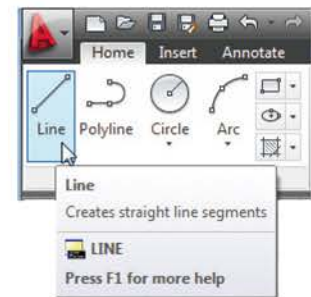
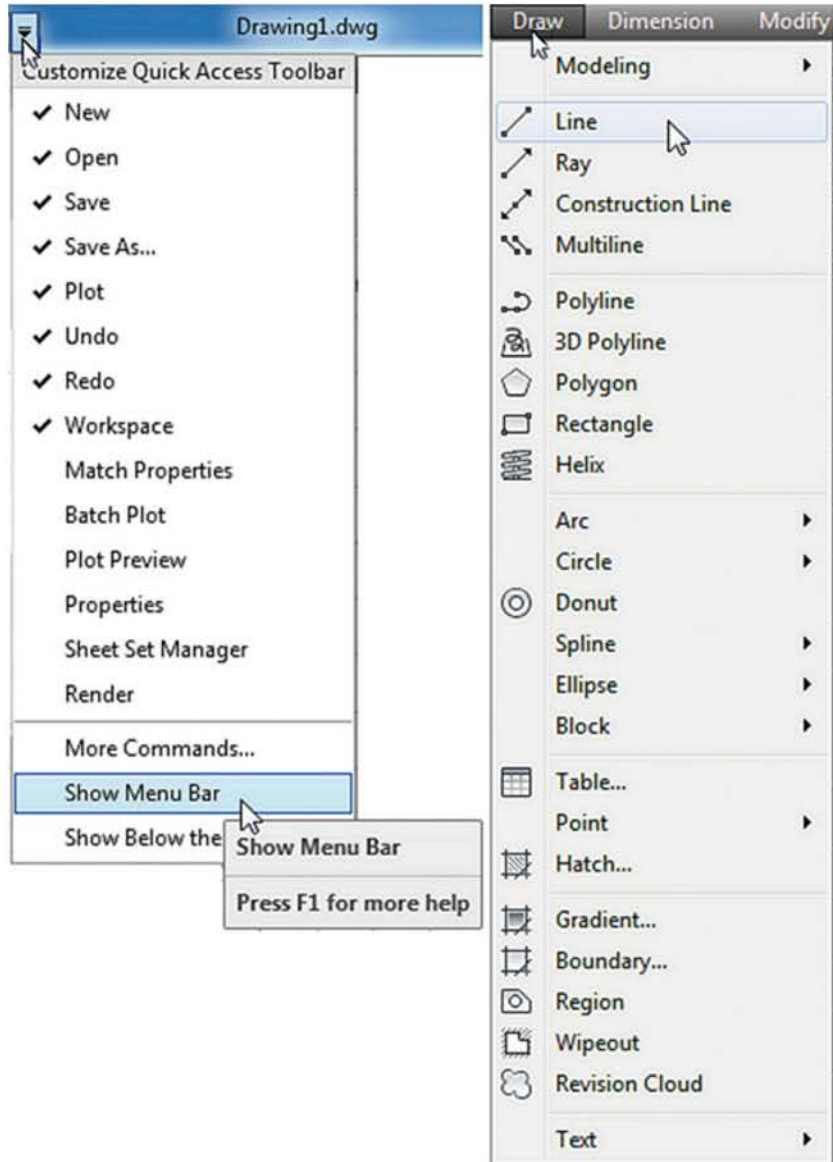

Fig. 3.1 The **Line** tool from the **Home/Draw** panel with its tooltip
Fig. 3.2 Selecting the Line tool from the Draw drop-down menu
Illustrations throughout this chapter will be shown as working in the **Drafting & Annotation** workspace. In this workspace, the **Home/Draw** panel is at the left-hand end of the **Ribbon**, and **Draw** tools can be selected from the panel as indicated by a *click* on the **Line** tool icon (Fig. 3.1). In this chapter, all examples will show tools as selected from the **Home/Draw** panel. However, methods of construction will be the same if the reader wishes to work by calling tools from the **Draw** drop-down menu. In order to bring drop-down menus on screen, first *click* the small arrow button on the right-hand end of the **Quick Access** toolbar, then *click* **Show Menu Bar** in the menu that appears. Menu titles appear above the **Ribbon**. *Click*
Draw in this menu bar. From the drop-down menu that appears, tools from the **Draw** list in the menu can be selected. Fig. 3.2 shows the **Line** tool being selected.
FIRST EXAMPLE – LINE TOOL (FIG. 3.1)
2. *Left-click* on the **Line** tool icon in the **Home/Draw** panel (Fig. 3.1), or *click* **Line** in the **Draw** drop-down menu (Fig. 3.2), or *enter* **line** or its abbreviation **l** at the keyboard.